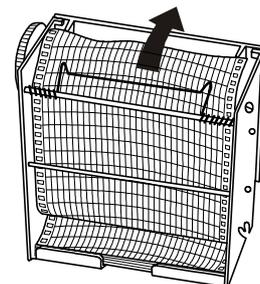

Fig. 3
3. Set a new recording paper in place on the rear bottom of the cartridge. Set the hole on the chart in the cog of the recording paper driving assembly and feed the recording paper in the direction of the arrow by driving the cog wheel. (Fig. 3)